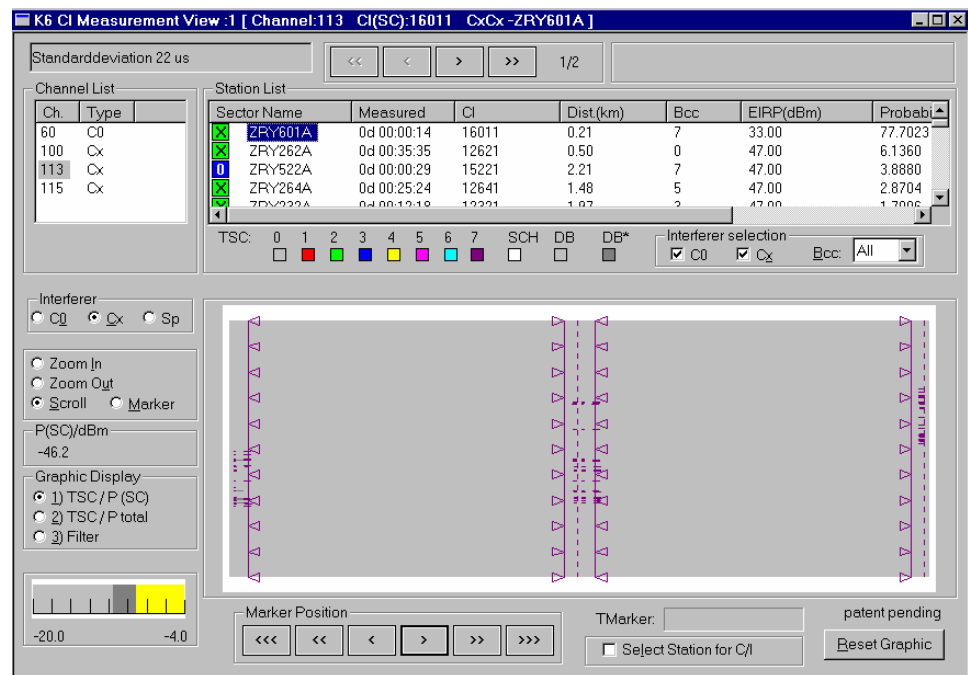

Fig. 5-16 Interference diagram: Identification of signals
**Channel List**                      The table lists all channels of the Serving Cell (SC) measured at the current interference point. For each channel in the list, the channel type (0 or 1 C0 channels plus 0, 1, or several Cx channels) is shown, too. The list can be scrolled with the *Page Up/Down* keys.
**Station list**                      The *Station List* and the interference diagram describe the channel selected in this list. (E.g. in Fig. 5-16 channel 113 is selected. All signals measured on channel 113 are listed on the right side and shown in the diagram.)